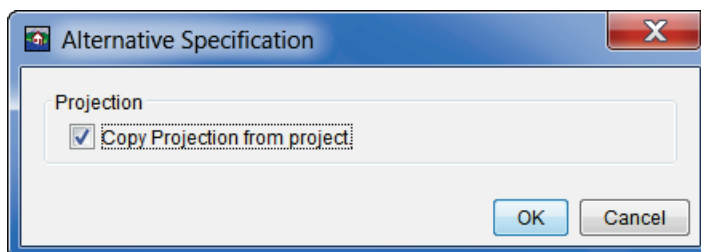

Figure 8.15 Alternative Specification Dialog Box
- From the **Import Alternatives** dialog box (Figure 8.12), click **Edit Alternative Specifications**, the **Alternative Specification** dialog box will open (Figure 8.15). **Copy Projection from project** should by default be clicked, click **OK**.
- From the **Import Alternatives** dialog box (Figure 8.15) click **Close**. The HEC-FIA model alternative has been imported.